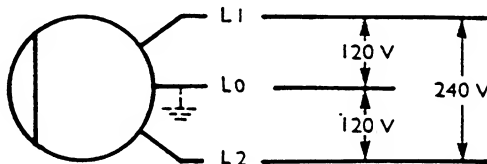

FIGURE 15. 120/240 V. 1-PHASE DOUBLE DELTA
**120/240 Volt, Single Phase, 12 Lead:** Terminal connection L0 can be grounded (neutral). For 120 volts, connect the hot load wires to either the L1 or L2 connection, Figure 15. Connect the neutral load wire to the grounded L0 connection. Two 120 volt circuits are thus available, with not more than 1/3 the rated capacity of the set available on either circuit. If using both circuits, be sure to balance the load between them.